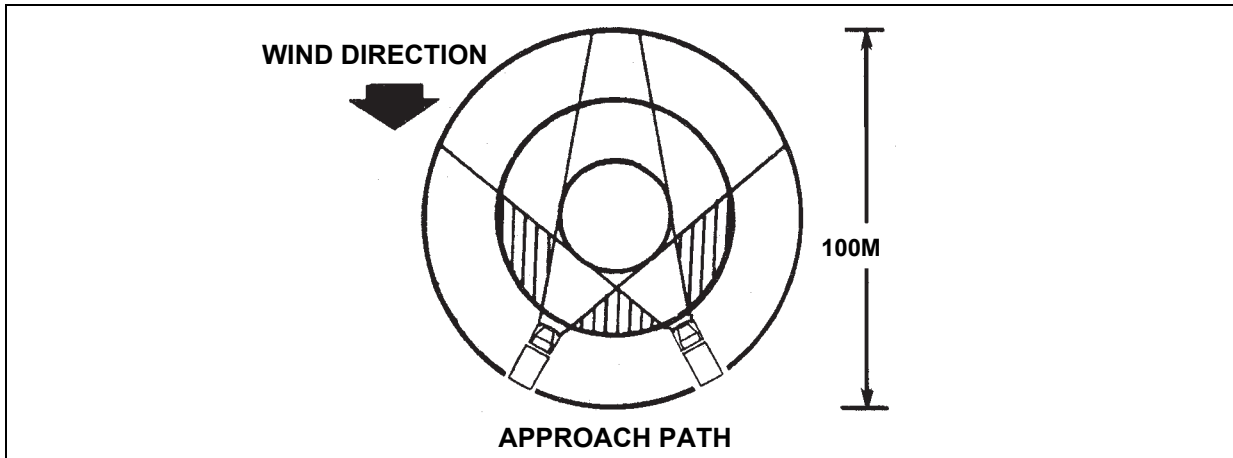

Figure 4-14. Emergency Lighting Pattern
- Emergency Lighting.** During an emergency, various lighting patterns can be used with proper coordination between the aircrew and ground personnel. A common method using vehicles is shown in figure 4-14. This method should only be used in an emergency because it impairs the pilot's night vision and can disclose the landing site position.